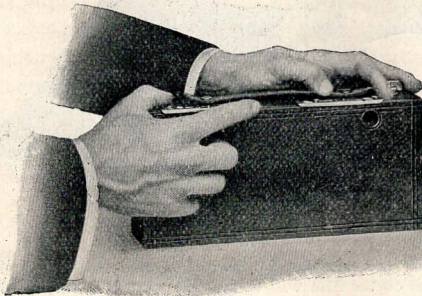

FIG. 1.
1. To load the camera, take a position at a table where the daylight is somewhat subdued, and open the back of the camera by pushing on the metal slide locks, as shown in Fig. 1. The back of the camera will loosen, and may be allowed to drop down.